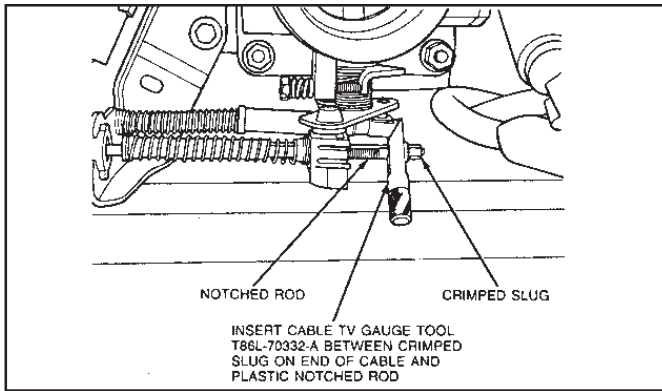

Figure 24
7.3 Insert tapered end of the tool between the crimped slug on the end of cable and plastic notched rod, also on end of cable assembly. Push in Cable TV Gauge Tool T86L-70332-A or equivalent forcing the crimped slug away from the plastic rod. Ensure gauge block is pushed in as far as it will go. (See Fig. 24.)